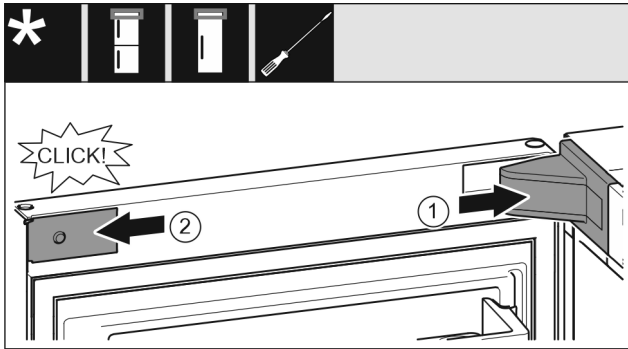

Fig. 28
- ▶ Put the swap bearing block cover Fig. 28 (1) on and engage, push apart carefully if required.
- ▶ Place the trim Fig. 28 (2) on the side and engage.